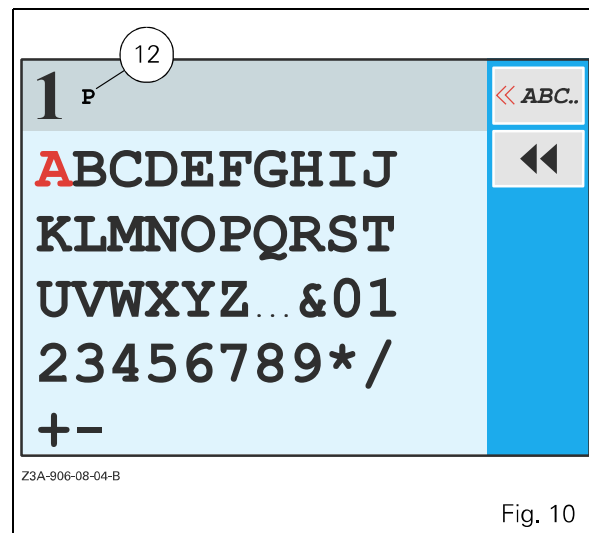

Fig. 10
- Validate the letter by pressing the encoder. The letter P is displayed in black (12 Fig. 10).